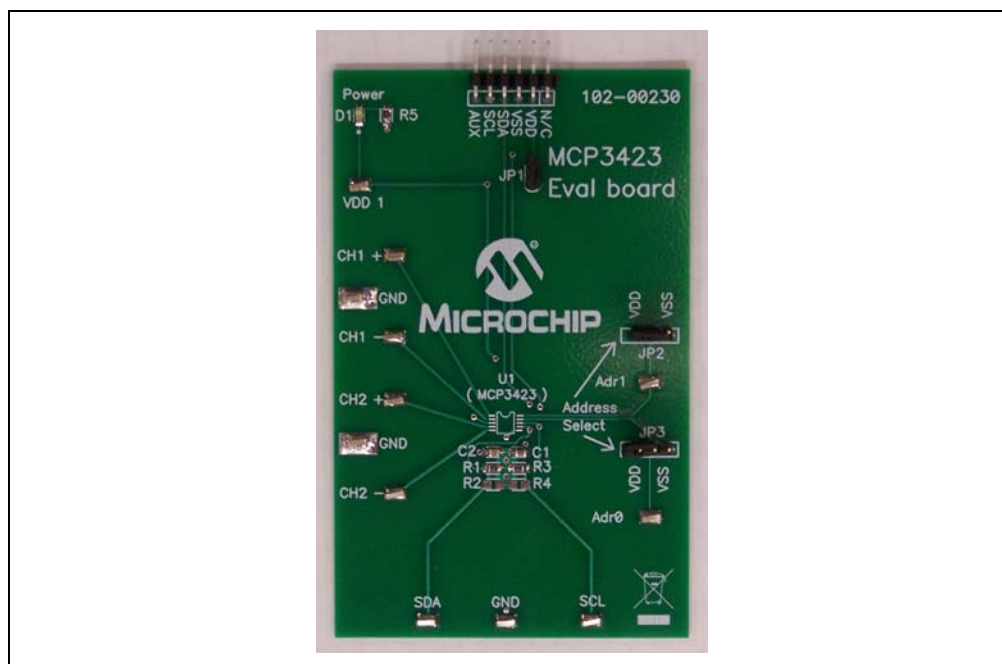
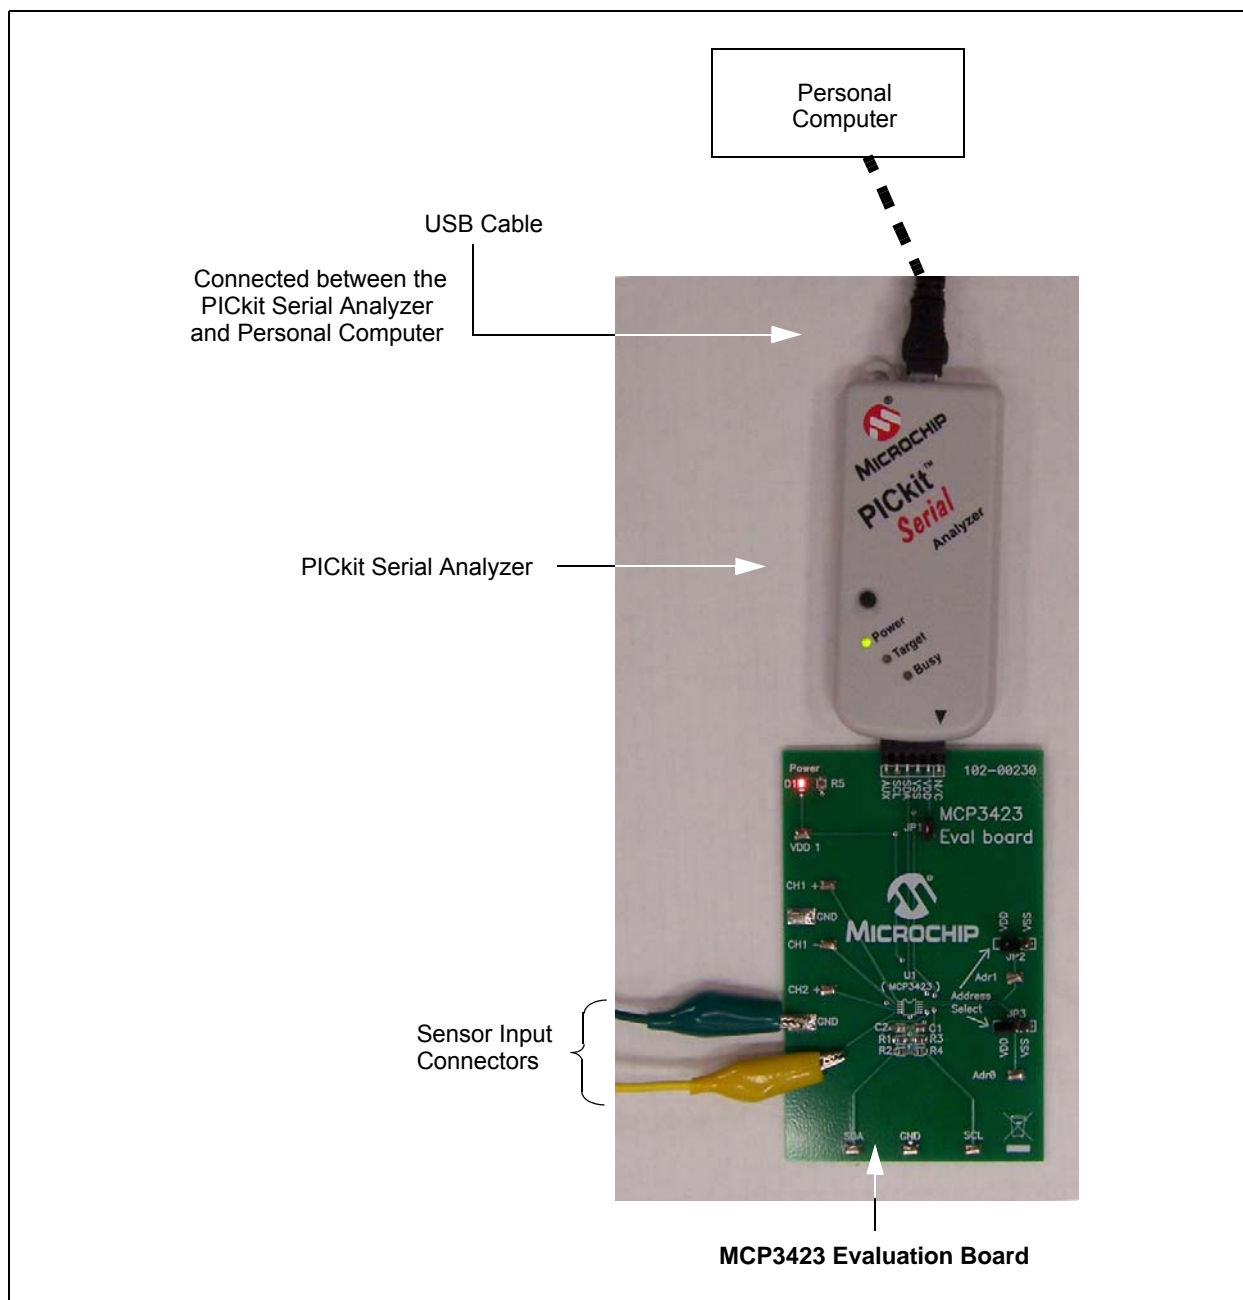

FIGURE 1-1: Front View of the MCP3423 Evaluation Board.
FIGURE 1-2: MCP3423 Evaluation Board with the PICkit Serial Analyzer.
Figure 1-1 shows the MCP3423 Evaluation Board, and Figure 1-2 shows the MCP3423 and PICKit Serial Analyzer.
1. Connect the MCP3423 Evaluation Board's 6-pin socket to the PICKit Serial Analyzer as shown in Figure 1-2.